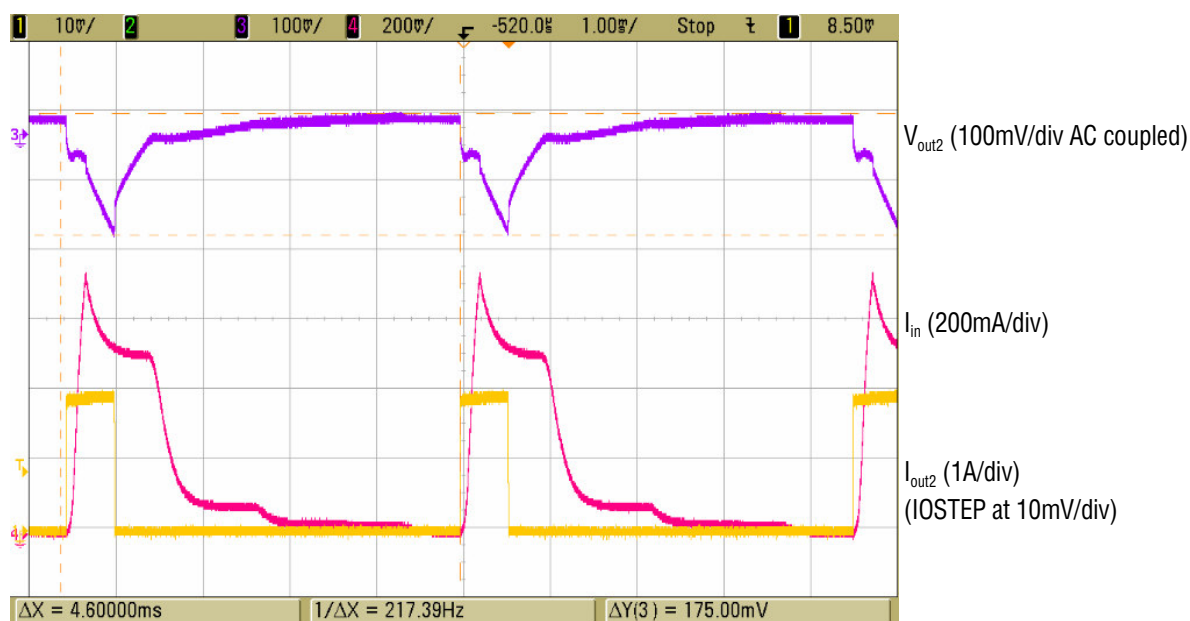

Figure 3. Pulse Load Waveforms for 2A pulsed load, 1/8th duty cycle, 4.6ms period
6. An example result showing  $V_{OUT2}$ ,  $I_{IN}$  and a pulse load  $I_{OUT2}$  is given in Figure 3.